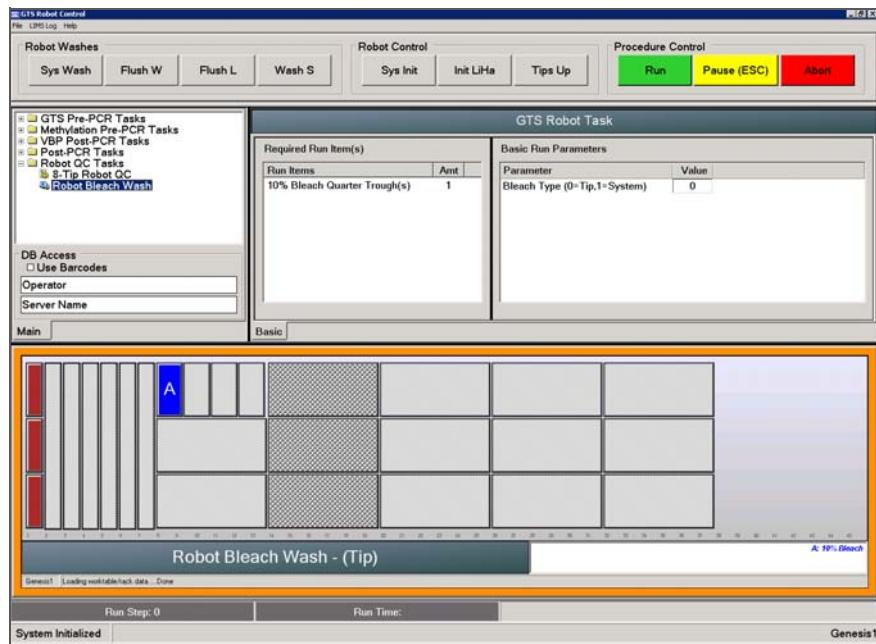

Figure 4 Robot Bleach Wash
5. Select **QC Tasks | Robot Bleach Wash** (Figure 4).